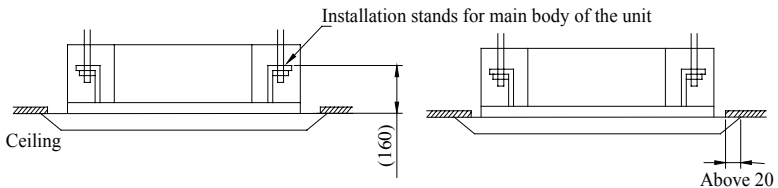

Fig.3
(3). Adjust the unit to the suitable install place. (Refer to the fig.3)